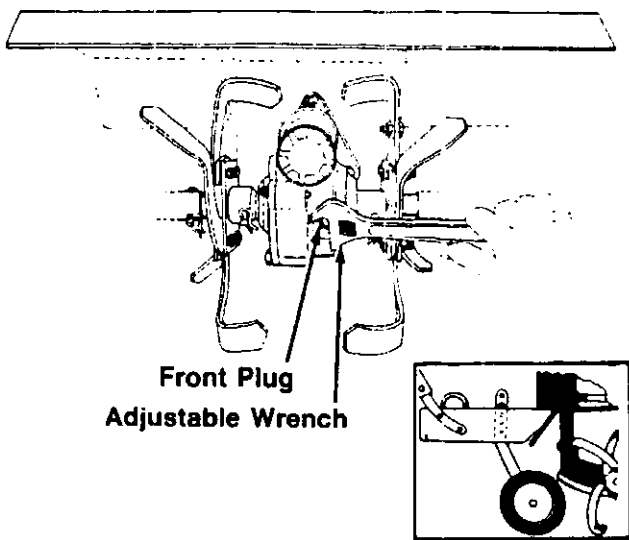

FIGURE 15.
1. Level the tiller by placing wheel yoke in the position shown in figure 15, inset (clevis pin is placed in the second hole from the top).
2. Remove the front pipe plug from tiller gear case. See figure 15.